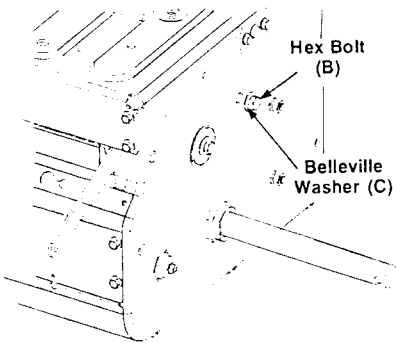

FIGURE 3 - Wheel removed for clarity.
2. To attach the handles and control panel assembly to the unit, start hex bolts (B) and Belleville washers (C) (cupped side towards the frame) into holes in the frame sides as shown in figure 3. There